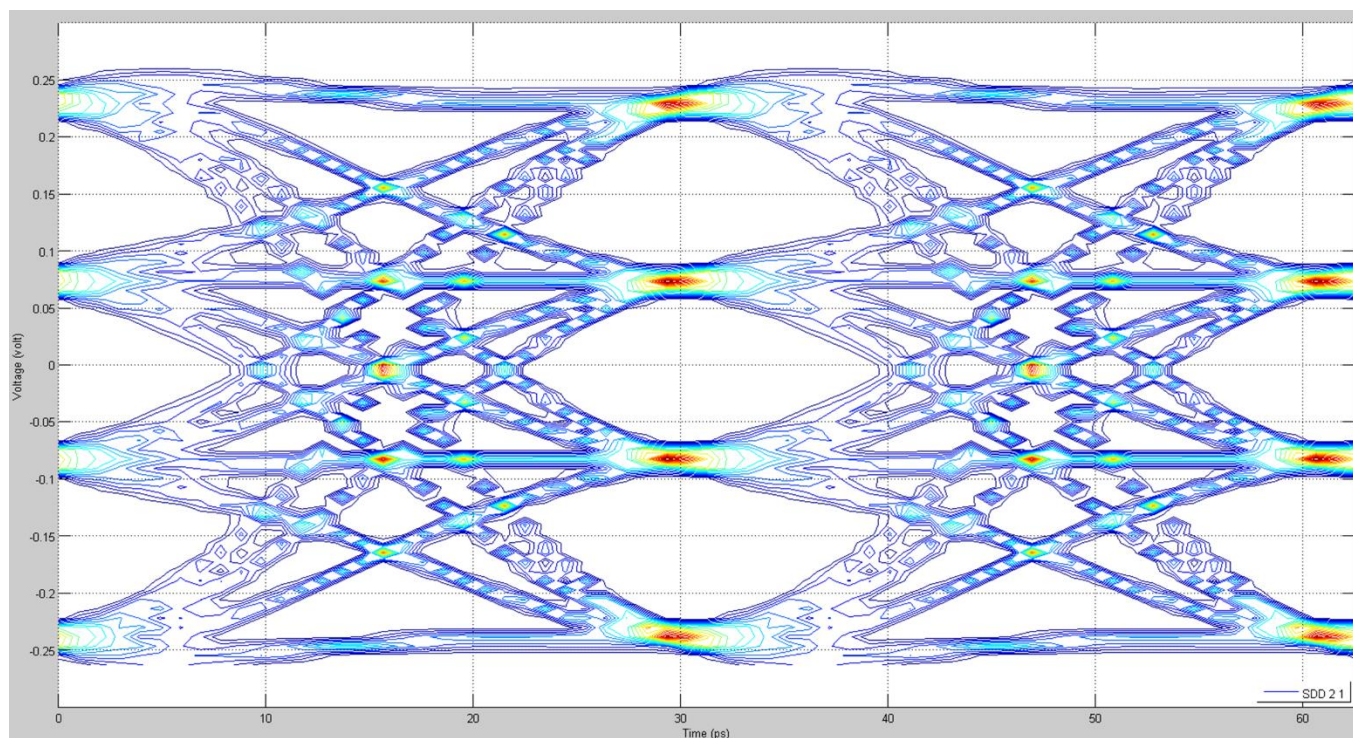

**Figure 1. HS1-HS2 Differential PAM4 Eye Diagram - 80 Gbps / Rise time 7.5ps (20 to 80%)**
- Signal path: (Figure 1 and 2) HS1 to HS2, (Figure 3) MS1 to MS2